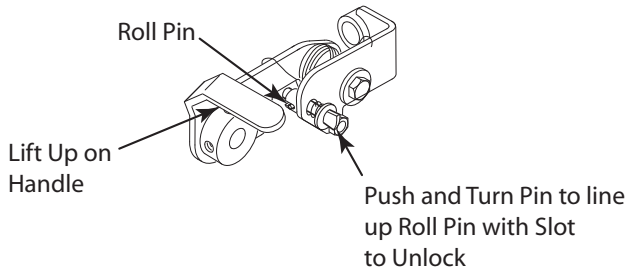

FIGURE 2-1
1. To unlock the SCZ Striper from the transport position, lift up slightly on the handle and turn the lock pin until the small roll pin lines up with the slot. See Figure 2-1 on page 2.